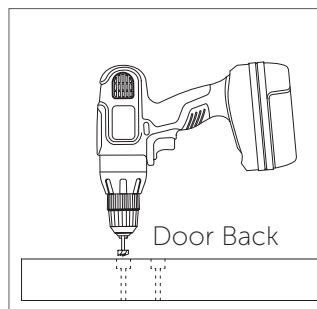

Figure 4
7. Turn the door over. Using a 7/8" Forstner bit*, drill a 7/16" deep hole into each pilot hole. (Figure 4).